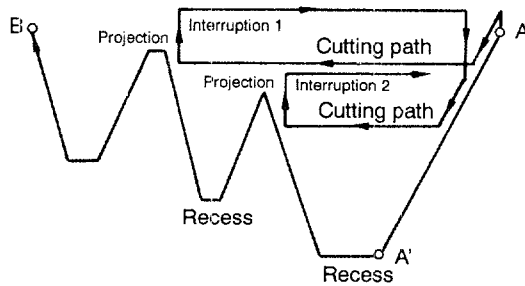

Fig. 4.25 Cutting a Complicated Recess
- If a recess has projection and recess in it as shown in Fig. 4.25, interruption will occur again during the cutting of a recess appearing in the recess being defined.